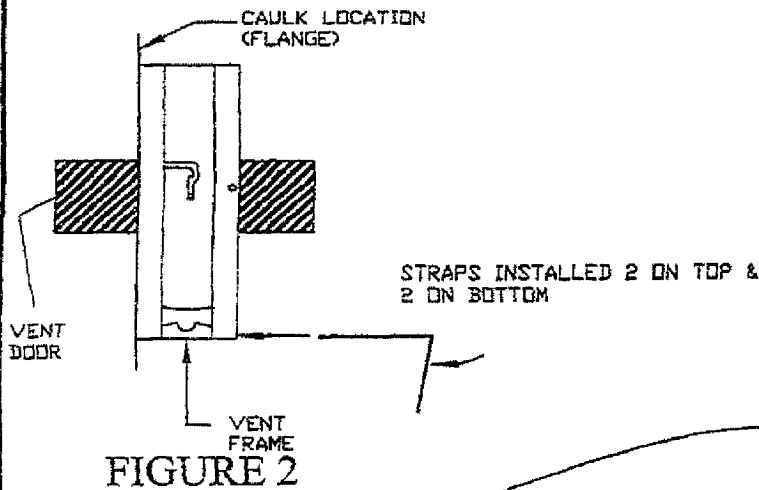

FIGURE 2
3. Apply a bead of polyurethane caulk around the back of the flange on the vent frame. (FIG. 2)